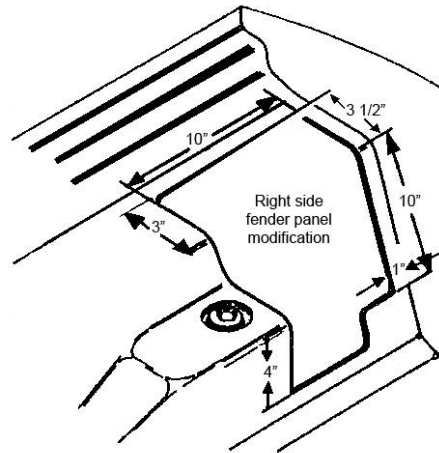

Figure 2
3. Cut hole in fender panel. **See Figure 2.**